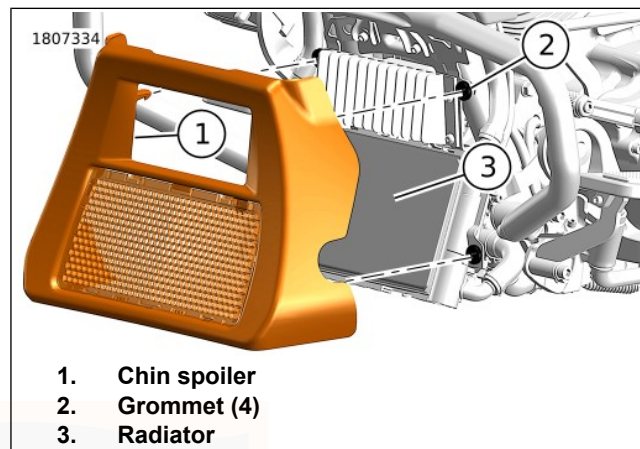

Figure 97. Chin Spoiler
1. See Figure 97. Remove chin spoiler.
- b. Pull chin spoiler (1) straight forward.
2. Clean debris from radiator (3) fins.
- c. Align barbed studs on chin spoiler with grommets (3).